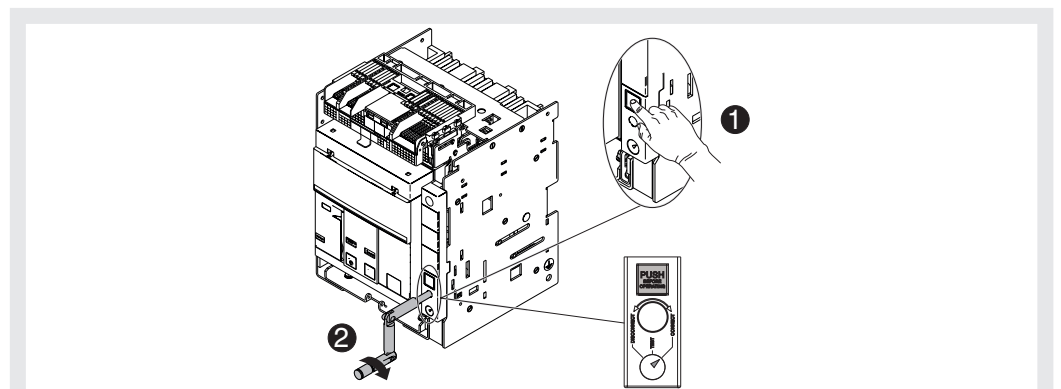

Figure 36
7. Press lock pushbutton and turn handle clockwise until pushbutton projects and signaling device indicates that circuit-breaker is in position **CONNECT**. See Figure 36.